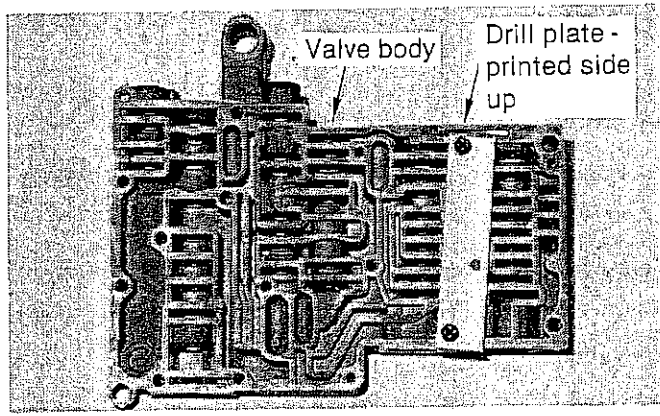
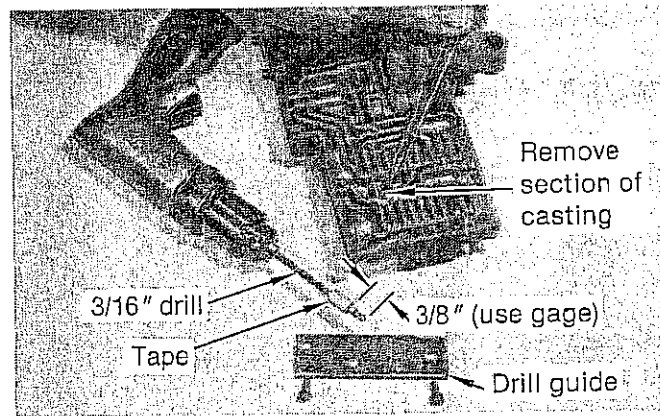

FIGURE 35
FIGURE 36
**STEP 7.** Drilling Main Casting: Install the special drill guide supplied with the kit in place on the casting as shown. (See Fig. 35) Use two short screws to hold it in place in the end holes with drill plate position as shown. The center hole is a drill guide to remove a section of the casting wall below it. Use a 3/16" drill supplied in the kit and wrap several layers of tape around the drill bit to act as a stop. You want 3/8" from the edge of the tape to the end of the drill. Use the gage to wrap the tape properly. (See Fig. 36) Use a high speed drill motor and slowly drill down into the casting wall until the tape just touches the face of the drill guide. Drilling further will